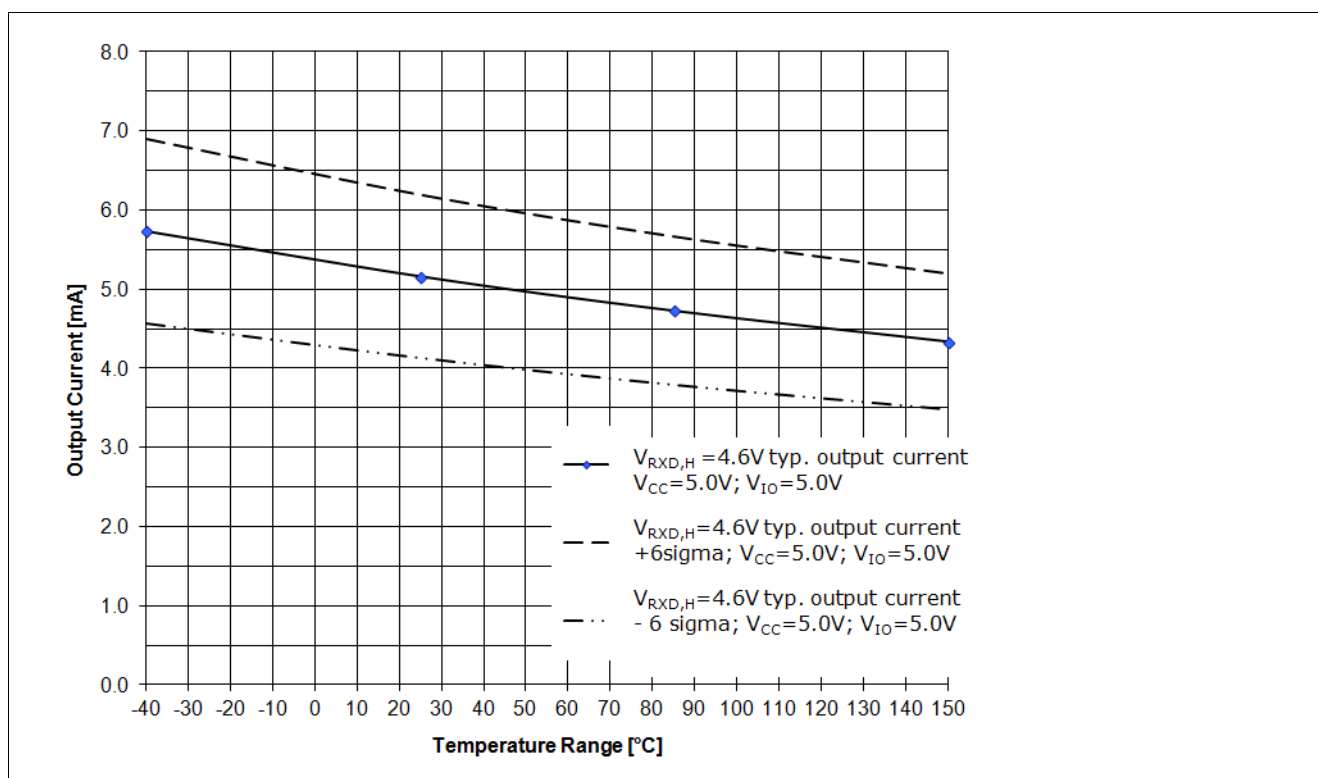
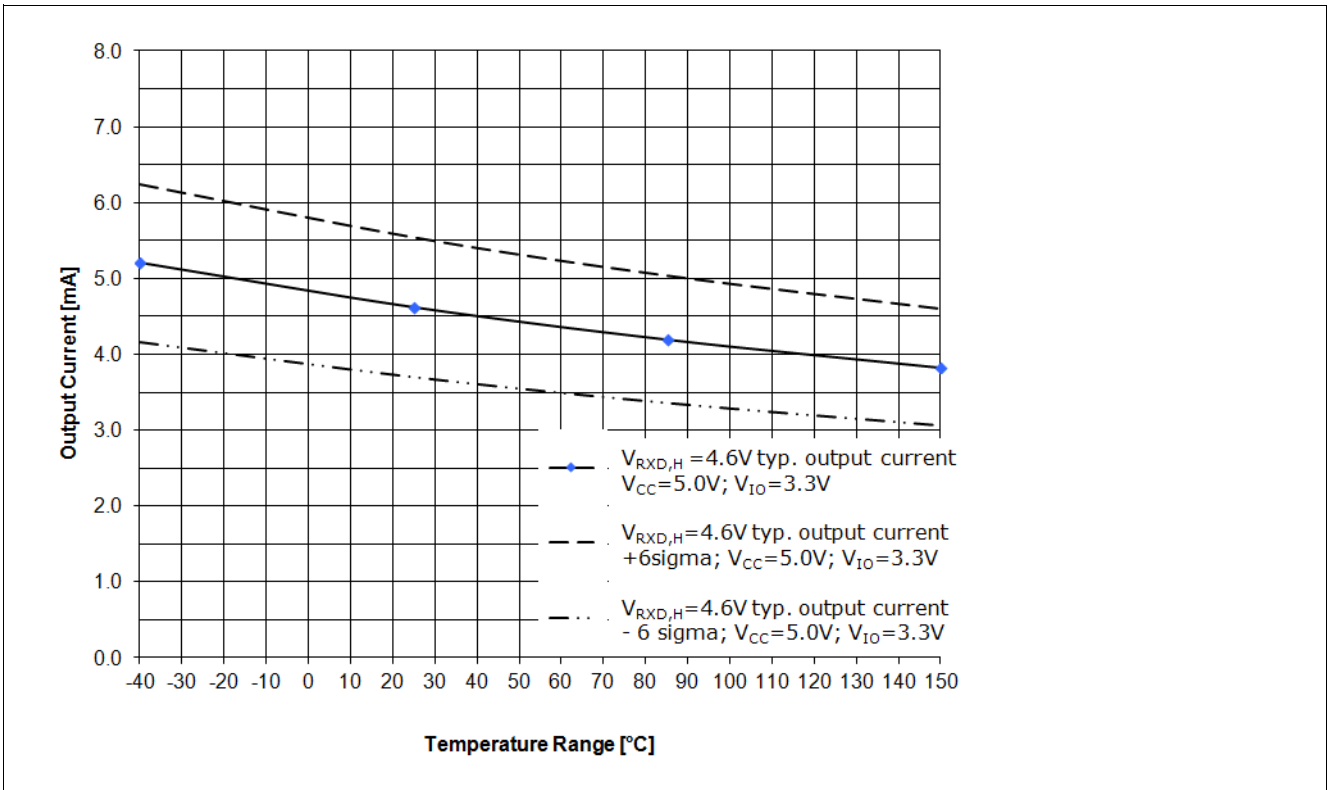

Figure 11 RxD Output driver capability for a logical “High” signal V_{RxD,H}=4.6 V, V_{CC}=5.0 V, V_{IO}=5.0 V¹⁾
Figure 12 RxD Output driver capability for a logical “High” signal $V_{\text{RxD,H}}=4.6\text{ V}$, $V_{\text{CC}}=5.0\text{ V}$, $V_{\text{IO}}=3.3\text{ V}^1$
The diagram in Figure 11 shows the output current capability of the RxD output pin depended on the chip temperature T_J at a V_{IO} power supply of 5.0 V. Figure 12 shows the output current capability of the RxD output pin at a V_{IO} power supply of 3.3 V.
- The curve “VRxD,H = 4.6 V; typ. output current; VCC = 5.0 V; VIO =5.0 V;” displays the typical output current at the RxD output pin of the TLE8250GVIO (see Figure 11).
- The curve “VRxD,H = 4.6 V; typ. output current + 6 sigma; VCC = 5.0 V; VIO =5.0 V;” displays the expected maximum value of the output current at the RxD output pin (see Figure 11).
- The curve “VRxD,H = 4.6 V; typ. output current - 6 sigma; VCC = 5.0 V; VIO =5.0 V;” displays the expected minimum value of the output current at the RxD output pin (see Figure 11).
- The curve “VRxD,H = 4.6 V; typ. output current; VCC = 5.0 V; VIO =3.3 V;” displays the typical output current at the RxD output pin of the TLE8250GVIO (see Figure 12).
- The curve “VRxD,H = 4.6 V; typ. output current + 6 sigma; VCC = 5.0 V; VIO =3.3 V;” displays the expected maximum value of the output current at the RxD output pin (see Figure 12).
- The curve “VRxD,H = 4.6 V; typ. output current - 6 sigma; VCC = 5.0 V; VIO =3.3 V;” displays the expected minimum value of the output current at the RxD output pin (see Figure 12).